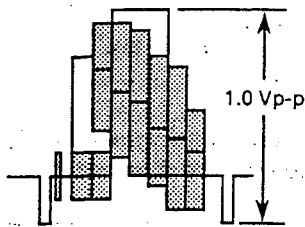

Figure 2-7.
8. Make sure that the amplitude of the playback colour bar signal is 1.0 ± 0.04 Vp-p as shown in Figure 2-7.